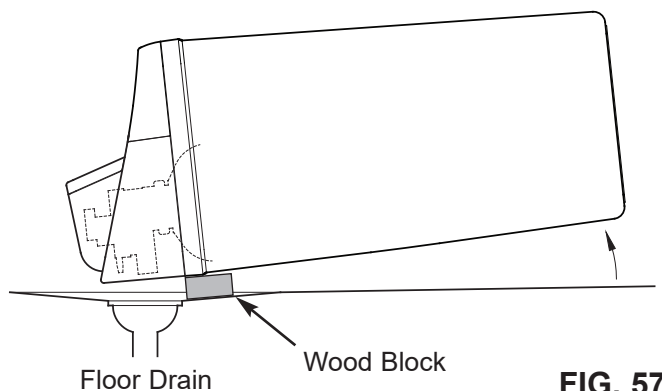

FIG. 57
6. Lay a piece of 2 inch thick board near the floor drain (See Figure 57).